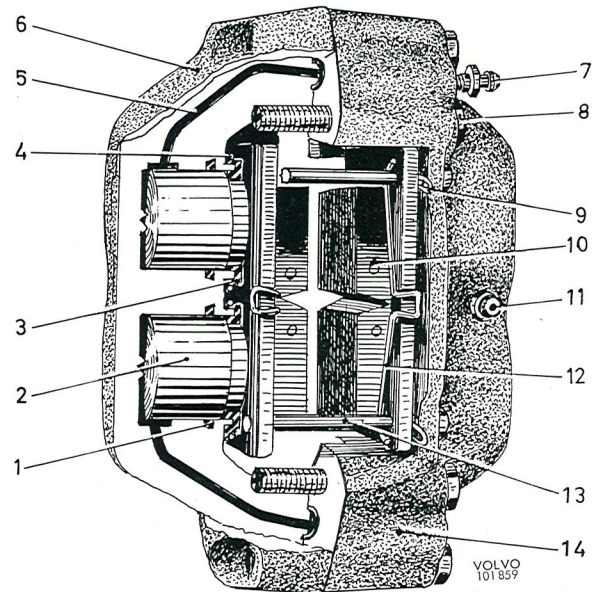

Fig. 5-8. Front wheel brake caliper
Mounted on the stub axle is the front wheel brake caliper (2) which houses the wheel unit cylinders and brake pads. The front wheel brake caliper consists of a housing in two halves (6 and 14, Fig. 5-8) bolted together and located on either side of the brake disc. Each half contains two cylinders and pistons. The upper cylinder is completely separated from the lower one, but both upper and lower cylinder are each connected through channels to the corresponding cylinder in the other half. The function of the sealing rings (1) is partly to prevent brake fluid from oozing out and partly to return the pistons to the rest position after braking. Rubber dust covers (3) prevent dirt from entering. Each sealing ring has a square section and presses against the piston from the slightly oblique groove in the housing. The brake pads (10) are provided with bonded facings and are held in position by means of retaining pins (13).